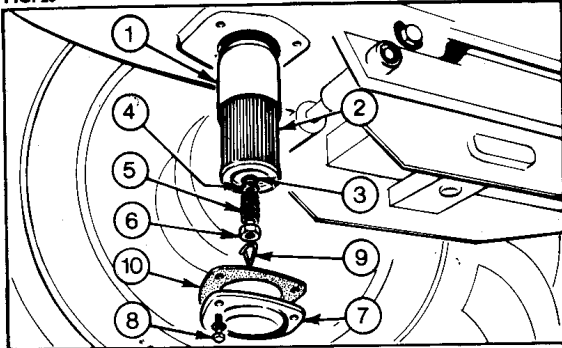

FIG. 21
2. Fig. 21. Remove the three bolts (8) and washers securing the cover plate (7) to the bottom of the centre housing.
3. Remove the clip (9), nut (6), spring (5), washer (4) and 'O' ring (3).
4. Pull out the strainer (2) and the shroud (1).
6. Check that the 'O' ring is seated in the pump, then refit the shroud (1) and the strainer (2).
7. Refit the 'O' ring (3), washer (4), spring (5), nut (6) and the clip (9).
8. Using a new gasket (10), refit the cover plate (7), with the three bolts (8) and washers.